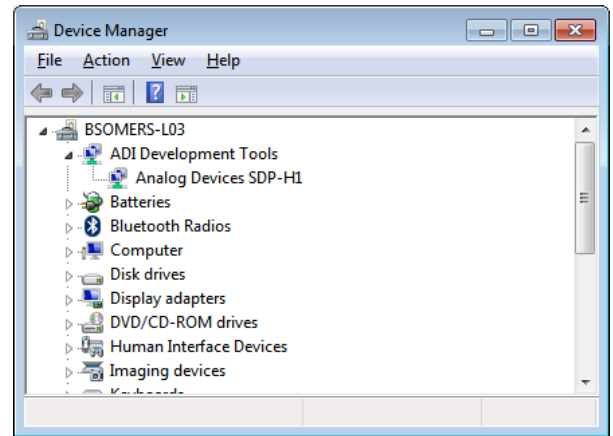

Figure 10. Device Manager Window
2. Navigate to the **Device Manager** window on the PC (see Figure 10).
4. The **Computer Management** window opens. In the list labeled **System Tools**, click **Device Manager**. If the **SDP-H1** driver is installed, and the board is properly connected to the PC, **Analog Devices SDP-H1** is shown in the **ADI Development Tools** list in the **Device Manager** window, as shown in Figure 10.